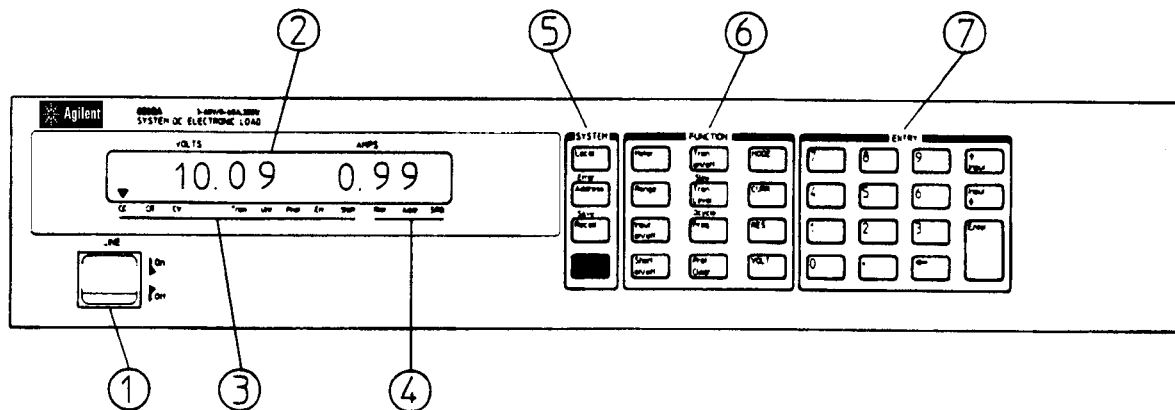

Figure 4-1. Front Panel
The Electronic Load can be programmed locally using the controls and indicators on the front panel. As shown in Figure 4-1, the front panel’s controls and indicators include a 12-segment LCD display and a keypad having three groups of keys (SYSTEM, FUNCTION, and ENTRY). Table 4-1 gives a brief description of each control and indicator.
3 Electronic Load Status Annunciators	<p>CC-Indicates the Electronic Load is in the constant current (CC) mode. Note that Figure 4-1 shows the Electronic Load is in the CC mode (CC annunciator is on).</p> <p>CR-Indicates the Electronic Load is in the constant resistance (CR) mode.</p> <p>CV-Indicates the Electronic Load is in the constant voltage (CV) mode.</p> <p>Tran-Indicates that transient operation is enabled.</p> <p>Unr-Indicates that the Electronic Load is unregulated (applies only in the CC mode and in the middle and high ranges of the CR mode).</p> <p>Prot-Indicates when any protection features (CC, OV, OP, OT, etc.) are active.</p> <p>Err-Indicates that remote programming error(s) have occurred.</p> <p>Shift-Indicates that the shift key, bottom key (blue) in SYSTEM group, was pressed.</p>